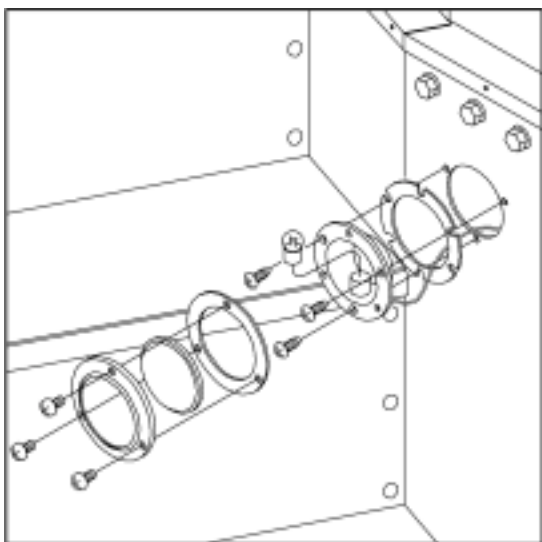

Figure 4—Stepwell Light
9. Remove three mounting screws. **Figure 4—Stepwell Light.**